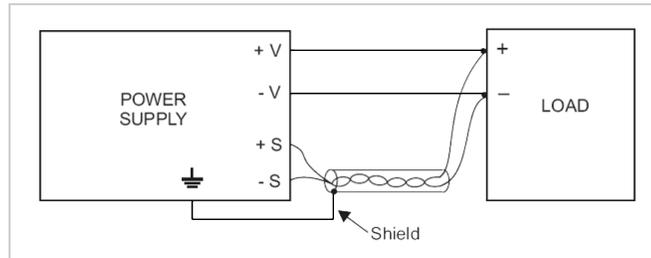

Fig. 1: Power Supply with Twisted "Remote Sense" Wires Connected to the Load
Most medium to high power AC-DC power supplies and some DC-DC converters include "Remote Sense" connection points (+ and - Sense) that are used to tightly regulate the supply's output voltage at the load. Since the output cables that connect a power supply's output to its load have some resistance, as current flow increases, so will the voltage drop across the cables ($I \times R = \text{Voltage Drop}$). Moreover, since it's best to regulate the voltage directly at the load, the use of the two Remote Sense wires connected from the supply to the load will compensate for these unwanted voltage drops. Refer to Fig. 1 which shows the typical connections when the Remote Sense function is used.
3. The remote sense leads carry very little current so light gauge wires can be used. However, steps should be taken to ensure that the remote sense wires do not pick up radiated noise by either twisting the + and - Sense wires together and/or by shielding the wires from the noise (refer to Fig 1). It is best to use different colored sense wires (e.g., black and red) so that after they are twisted it is easy to determine which wire is the + and - Sense.